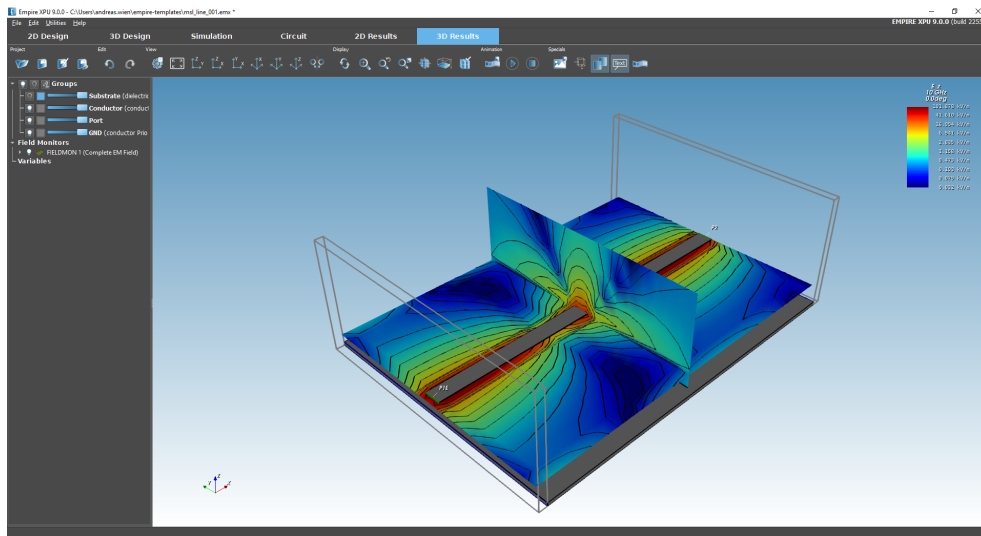

Figure 3.5.: EMPIRE XPU™ 3D Result Plot
- Check: If the field is displayed, see Figure 3.5, the Visualization Tool Kit (VTK) works